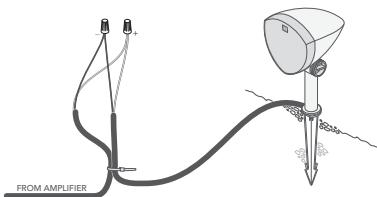

Figure 6
2. Starting at the speaker furthest from the amplifier, strip 3/4" of insulation on the cut end of the burial wires for the appropriate amp channel according to the tables below, then strip insulation from the ends of the corresponding speaker's pigtail (see Figure 6).
3. Connect the burial cable to the speaker pigtail using a wire tie (see Figure 6).